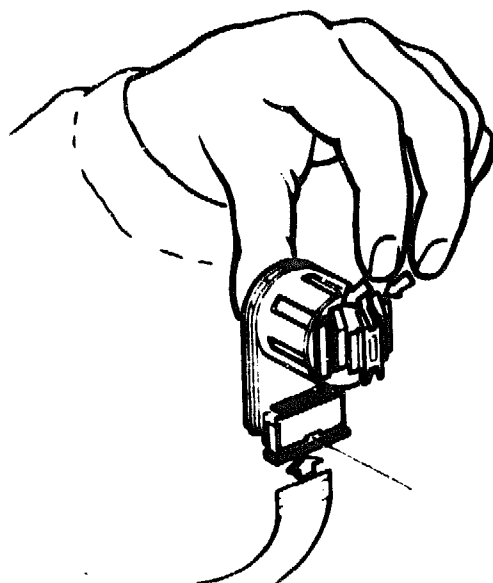

Figure 6-2 Removing the Printhead
The printhead is retained by two plastic clips, one each side of the print pin housing (see Figure 6-2).
6. Release the ribbon cable connector clip by sliding it away from the printhead approximately 5 mm (0.2 inches) (see Figure 6-2). This releases the ribbon cable.